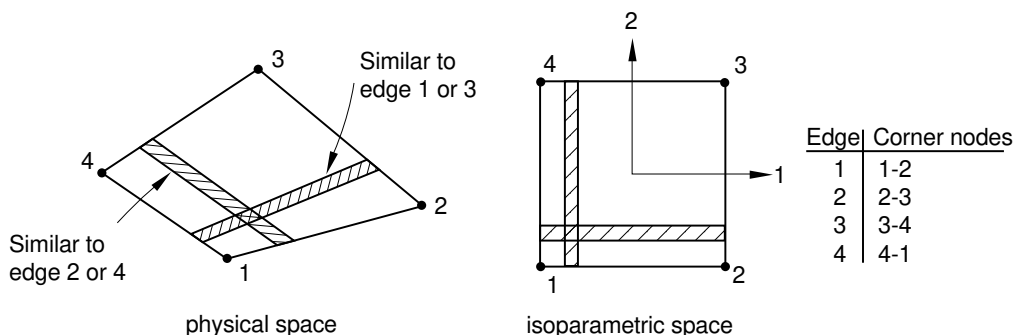

Figure 2: "Isoparametric" rebar in a three-dimensional shell or membrane.
5. Edge number to which the rebar are parallel in the element's local (isoparametric) coordinate system. See Figure 2.
4. Edge number to which the rebar are parallel in the element's local (isoparametric) coordinate system. See Figure 2.